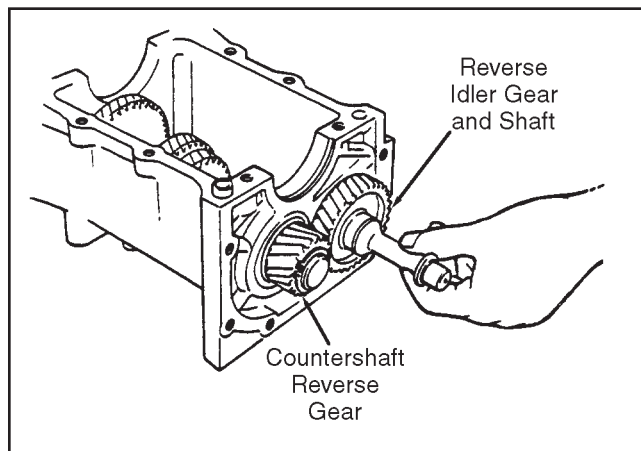

Figure 4H-7. Reverse Idler Gear and Shaft
3. Remove reverse idler gear and shaft (see Figure 4H-7).